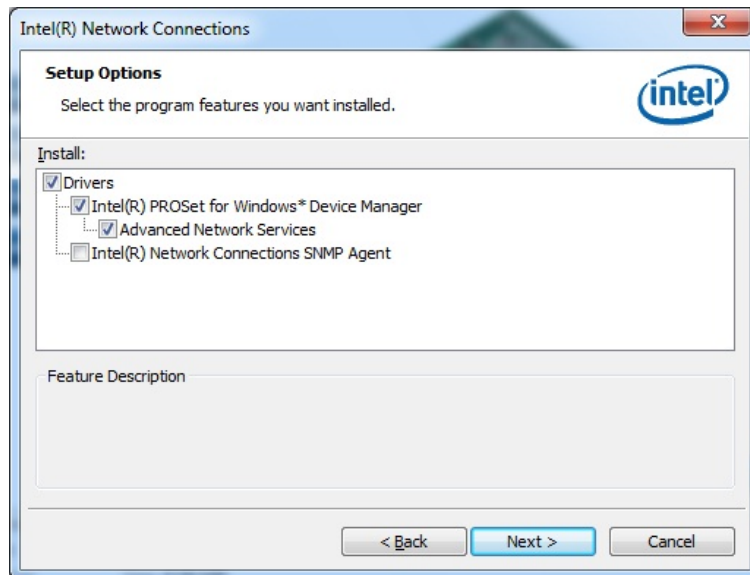

Figure 6-16: LAN Driver Setup Options
Step 12: The **Setup Options** screen in **Figure 6-16** appears.